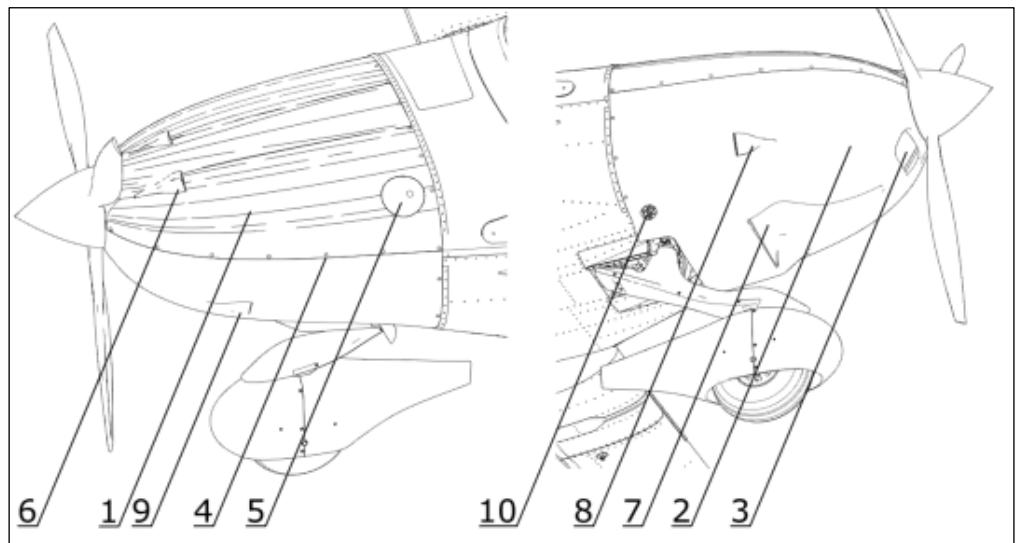

Fig. 1 *Engine Cowling*
Engine cowling (Fig. 1) consists of two parts: upper cowling and lower cowling. The upper cowling (1) is attached by means of quick fasteners – Camlocks (4) to the firewall and to the lower cowling (2). Unlock the quick fasteners by turning the bolt by 90° counter-clockwise. The access cover (5) which is located on the upper cowling on the left side in front of the firewall enables to check oil quantity in the oil tank without removing the upper cowling and without the use of tools.